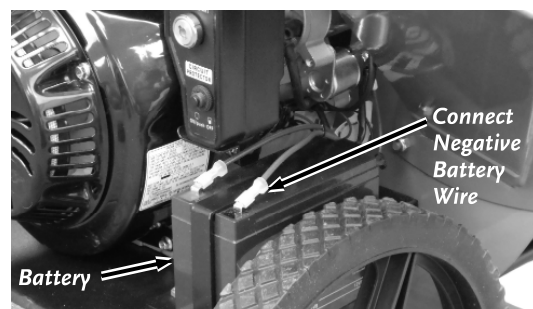

Figure 7
- Remove the Protective Cap from the Negative Battery Terminal if one is installed (**Figure 7**).